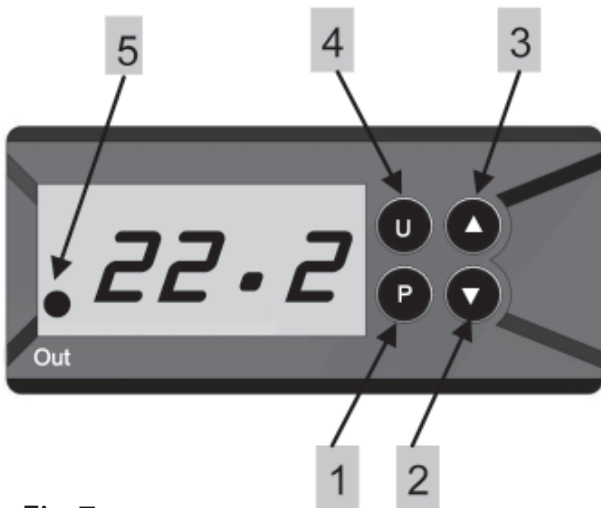

Fig 7.
To prevent overheating of the components within the heater caused by frequent 'On' and 'Off' switching (cycling) the digital thermostat has been pre-programmed with a time delay function. This prevents rapid fluctuations in water temperature from switching the heater 'On' and 'Off' more than once in a two minute period. The time delay mode is indicated by the flashing of the Red indicator (5) on the digital thermostat (see fig.7)